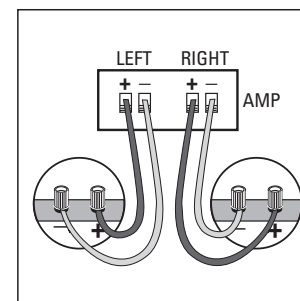

Figure 12—Hook up the speaker wires.
4. Once you have cut the hole, fish your previously positioned wiring out of the hole and connect the speaker. Follow the hookup directions included with your receiver. Strip 3/8" (9.5 mm) of insulation from each of the two conductors of the wire to expose the bare metal and twist each of the conductors into a single unfrayed strand (so you have two unfrayed strands). Connect the wire from the red terminal (+) of your amplifier or receiver to the red terminal (+) on your speaker and the wire from the black terminal (–) of your amplifier or receiver to the black terminal (–) on your speaker. Most wire has some indicator (such as color-coding, ribbing or writing) on one of the two conductors to help you maintain consistency (figure 12).